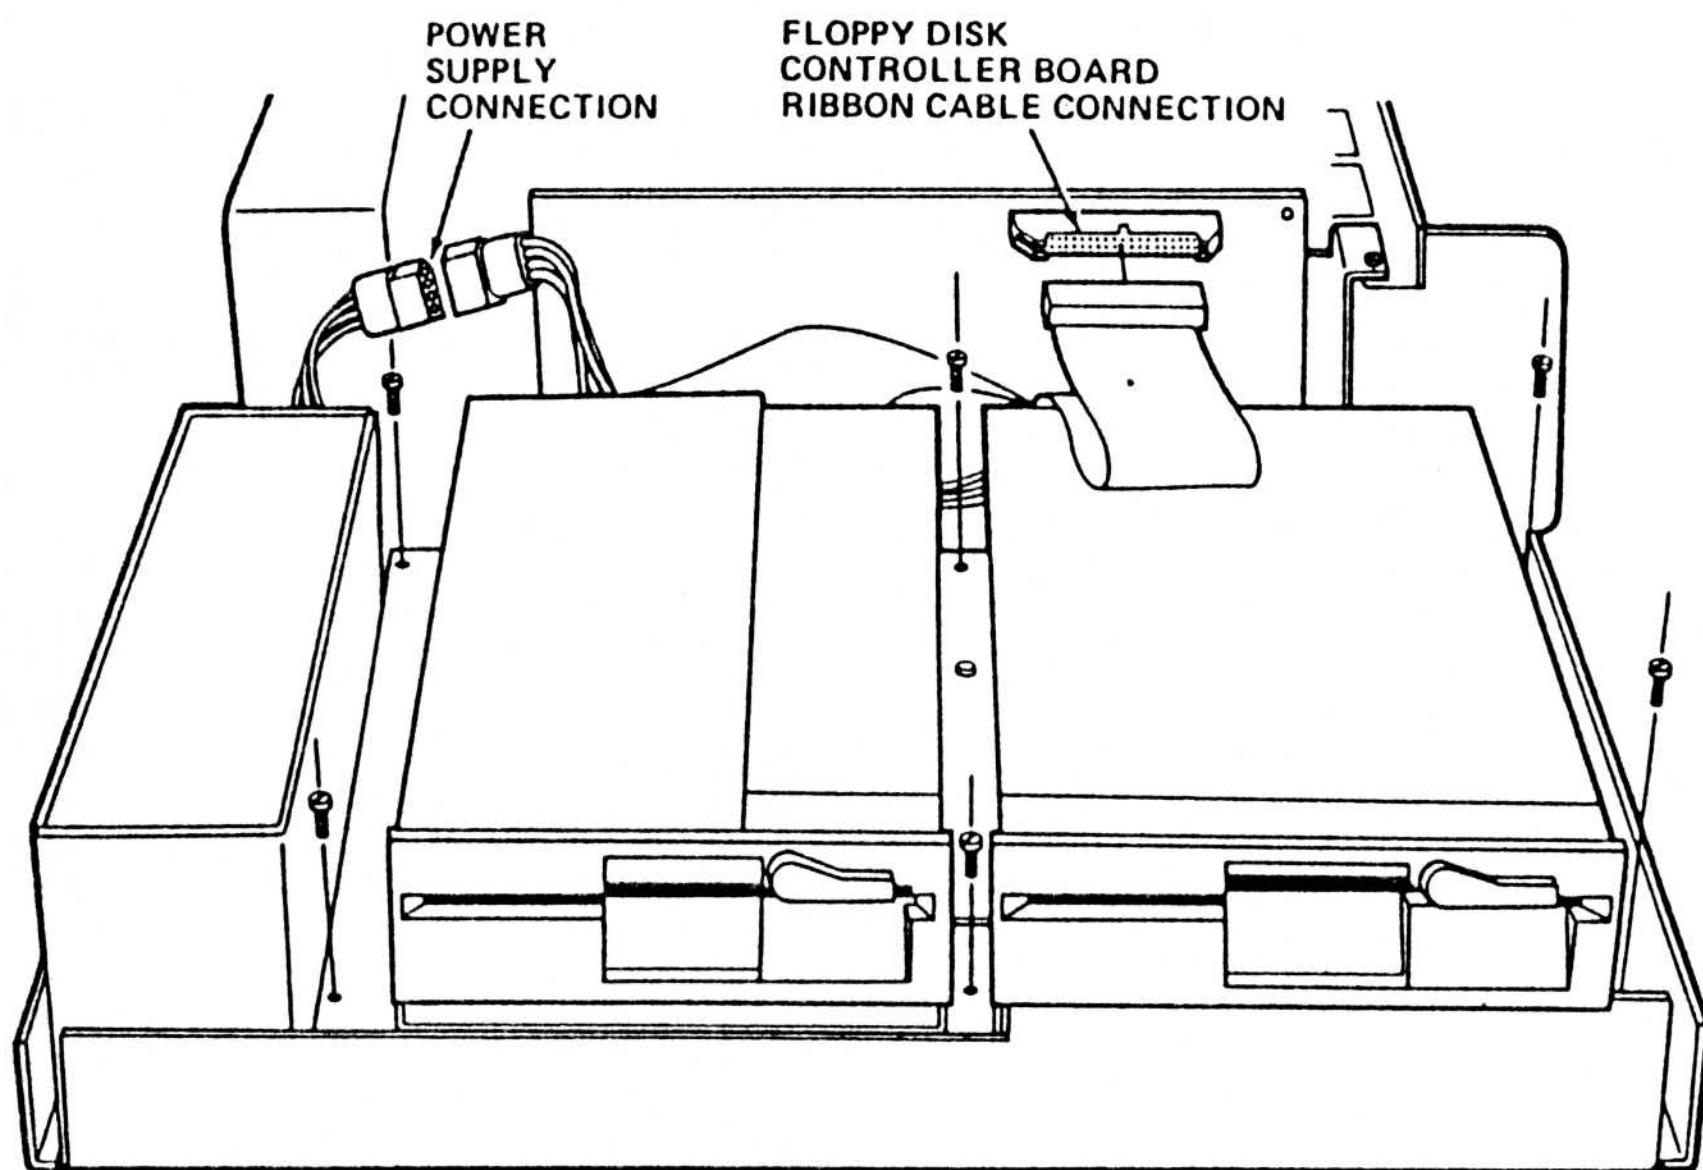
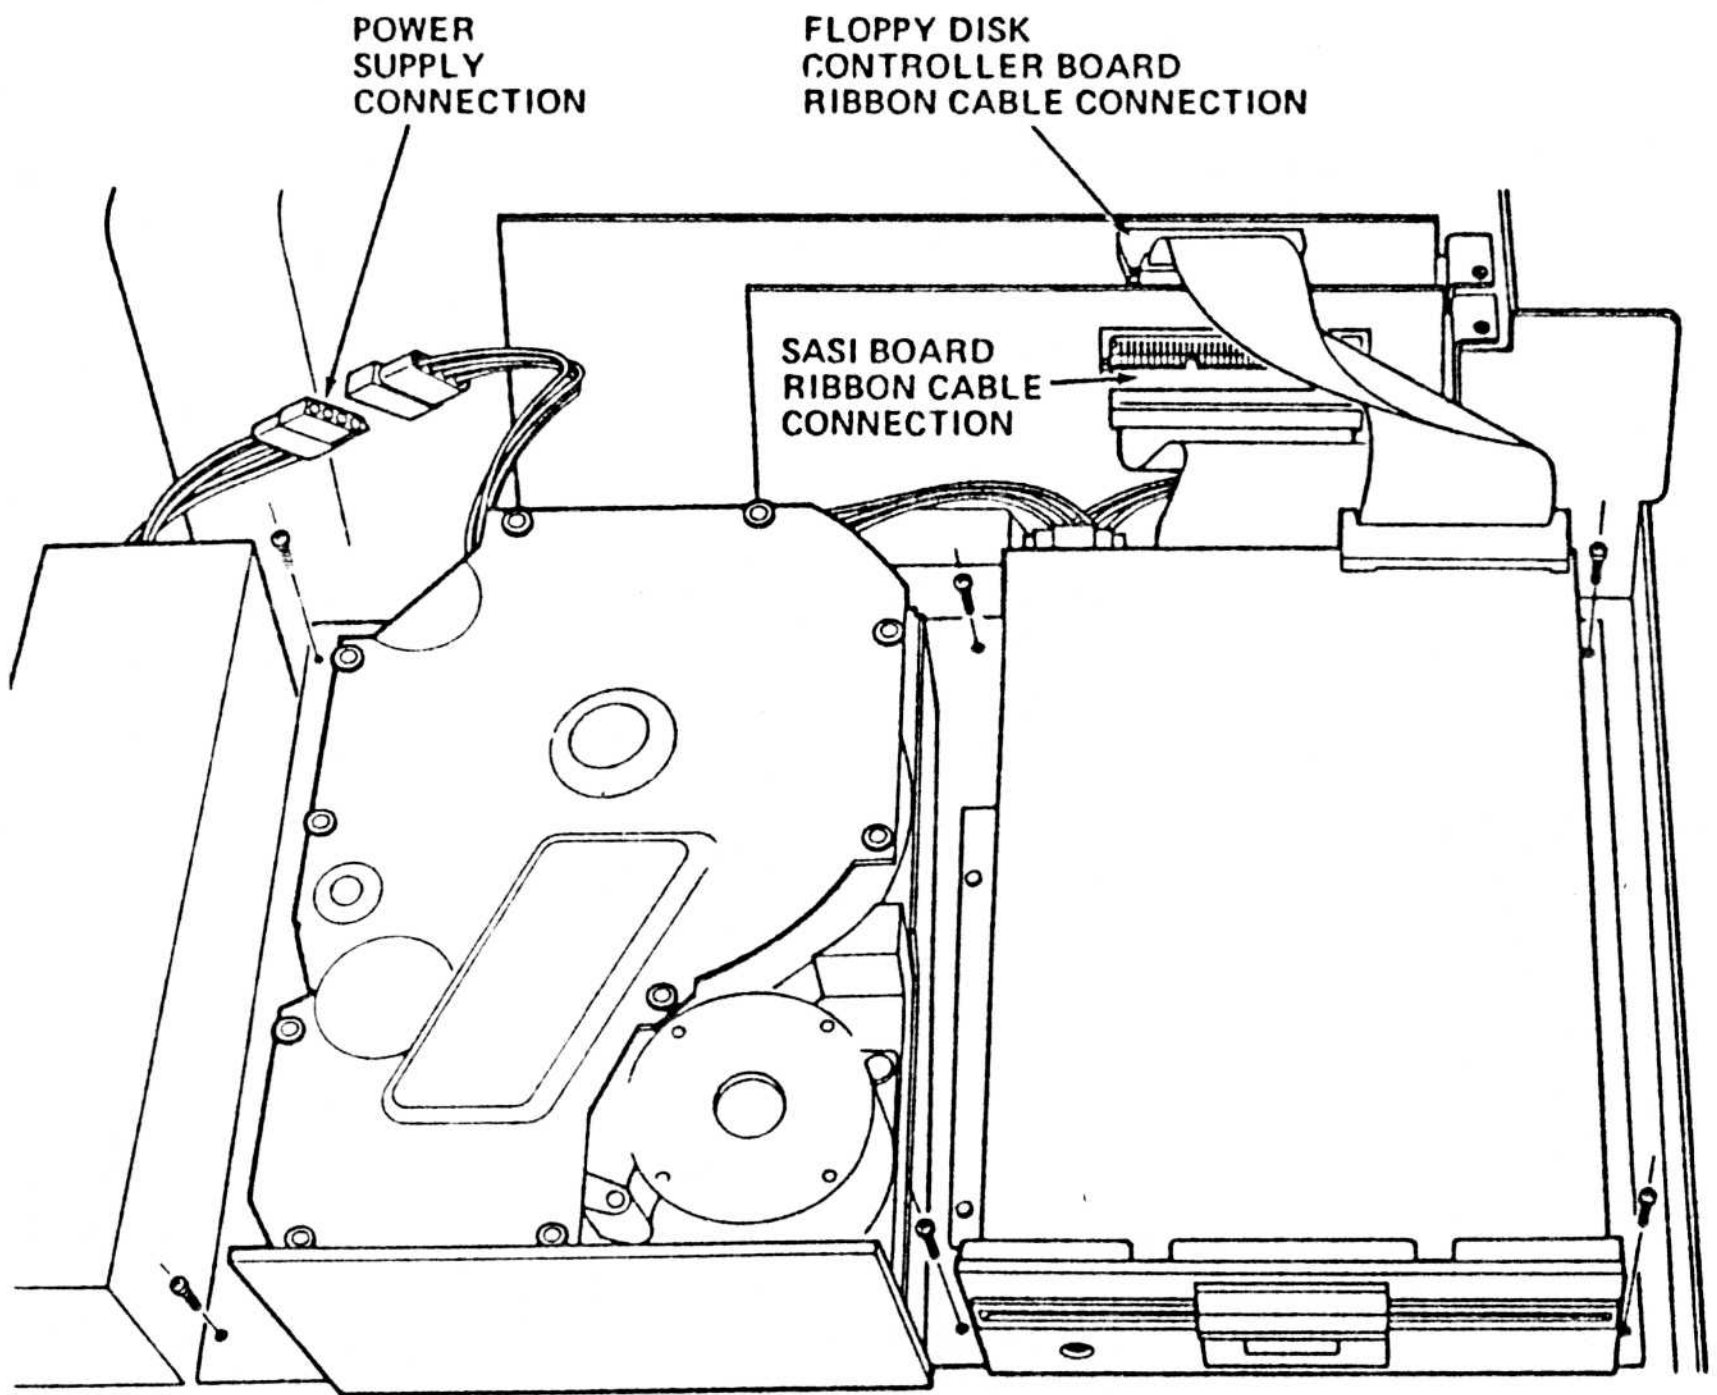

FIGURE 13: 1620 DISASSEMBLY
FIGURE 14: 1630 AND 1640 DISASSEMBLY
- STEP 5 Unplug the ribbon cable and power supply connections to the disk drive assembly as shown in Figure 13 for the Eagle 1620, and Figure 14 for the Eagle 1630 and 1640.
Refer to Figure 13 for the Eagle 1620 and Figure 14 for the Eagle 1630 or 1640.
- STEP 13** Reinstall the six screws with lock washers in STEP 6. Refer to Figure 13 for the Eagle 1620, or Figure 14 for the Eagle 1630 and 1640.
- STEP 14** Connect the ribbon cables and power supply wires to the disk drive assembly. Refer to Figure 13 for the Eagle 1620 or Figure 14 for the Eagle 1630 and 1640.